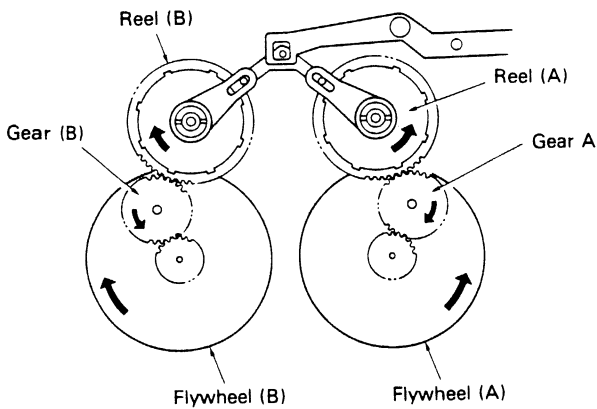

Fig. 21
2. As shown in Figure 21, the gears on flywheels (A) and (B) mesh with gears (A) and (B), which in turn mesh with the gears on reels (A) and (B).
3. Both reel (A) and reel (B) are now rotating, but at this point, the tape is not moving in either direction.